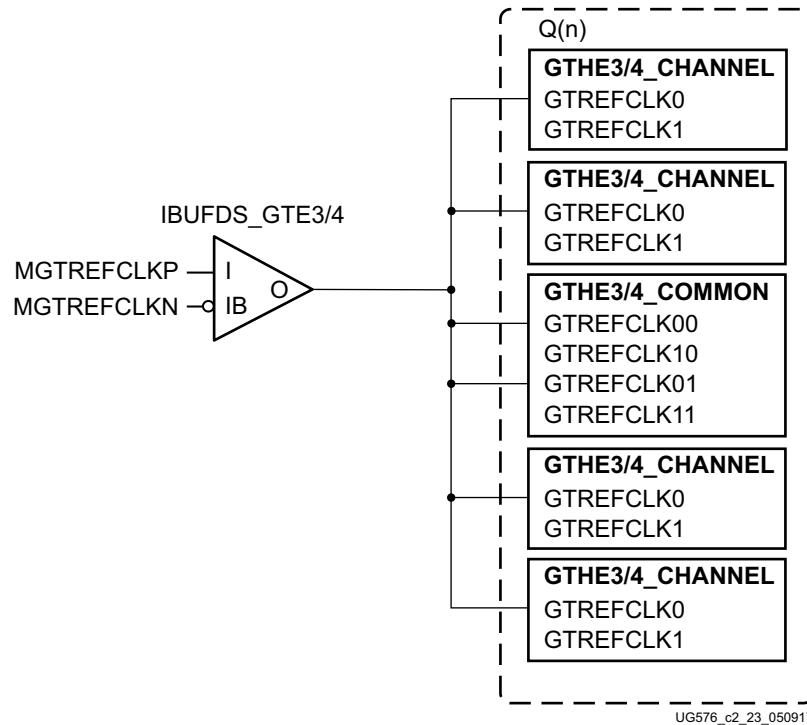

Figure 2-6: Single External Reference Clock with Multiple Transceivers in a Single Quad
Each Quad has two dedicated differential reference clock input pins (MGTREFCLK0[P/N] or MGTREFCLK1[P/N]) that can be connected to the external clock sources. In a single external reference clock use model, an IBUFDS_GTE3/4 must be instantiated to use one of the dedicated differential reference clock sources. Figure 2-6 shows a single external reference clock connected to multiple transceivers within a single Quad. The user design connects the IBUFDS_GTE3/4 output (O) to the GTREFCLK0 ports of the GTHE3/4_COMMON and GTHE3/4_CHANNEL primitives for the GTH transceiver.
Note: The `IBUFDS_GTE3/4` diagram in Figure 2-6 is a simplification. The output port `ODIV2` is left floating, and the input port `CEB` is set to logic 0.